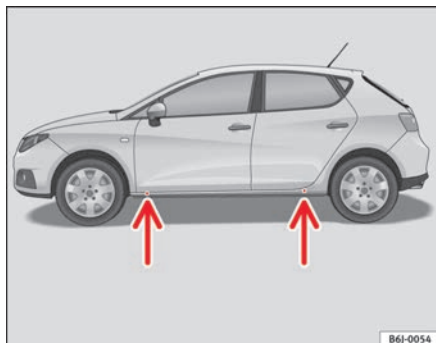

Fig. 137 The jacking points
- Locate the jacking point under the door sill closest to the wheel to be changed ⇒ fig. 137.
Recesses at the front and rear of the door sills mark the jacking points ⇒ fig. 137. A position has been made for each wheel. Do not fit the jack anywhere else.